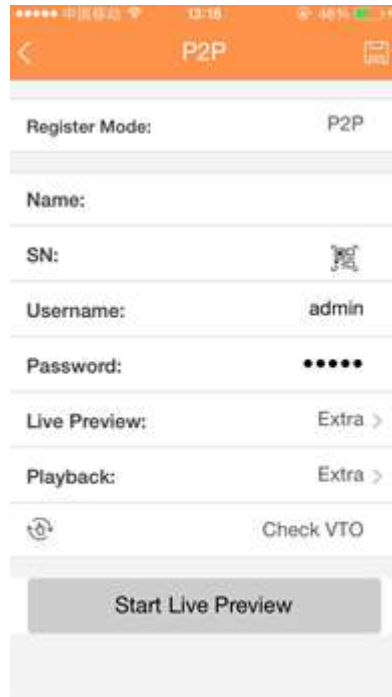

Figure 4-141
- Click  to save current setup. Tap Start Live preview to view all-channel video from the connected device. See Figure 4-141.